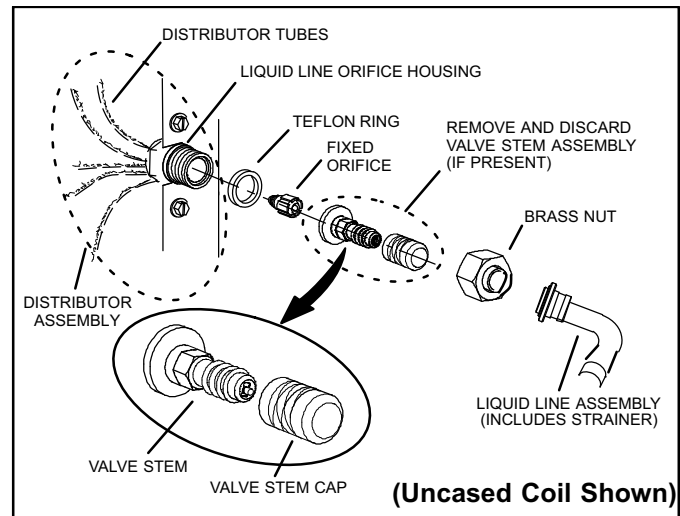

Figure 19. Typical Fixed Orifice Removal
- Remove and discard fixed orifice, valve stem assembly if present and Teflon ring as illustrated in figure 19.